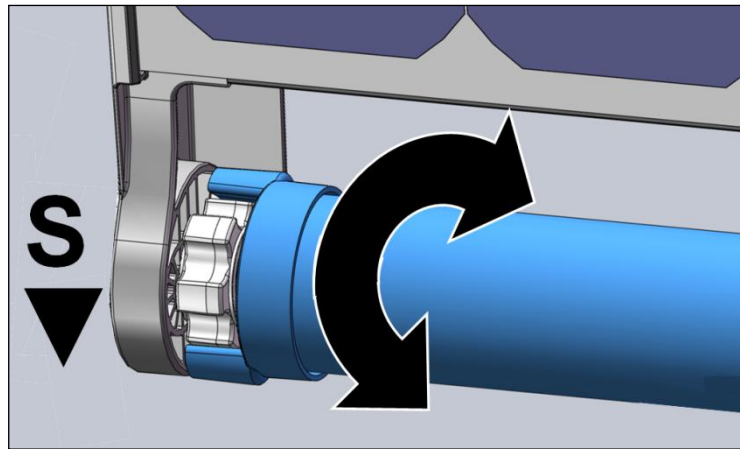
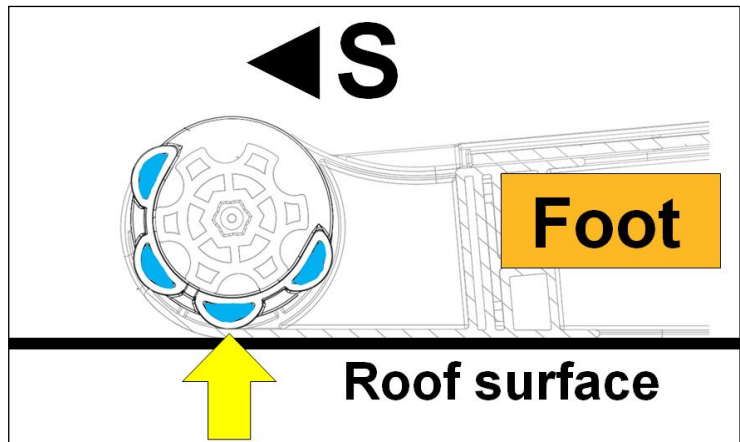

Fig. 34
Fig. 35
1. Fit the ends of the ballast under the inner connector and then rotate the ballast (Fig. 34) so that the northernmost of its two inner extrusions rests at bottom dead center (Fig. 35).